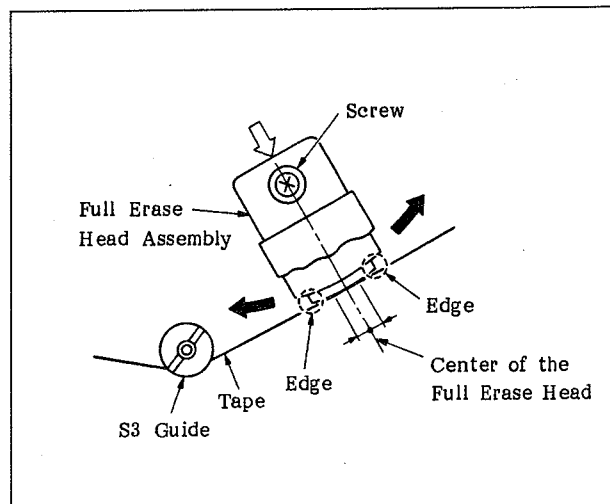

Fig. 6-56 Adjustment of the Position of the Full Erase Head
**Note:** To attach the shield case, lightly fix it with one screw (PSW3 x 12) by pushing the shield case in the direction of the white arrow shown in Figure 6-56. (Tighten the screw once, then loosen it by two or three turns.)
6. Adjust the full erase head assembly by moving it in the direction of the black arrows shown in Figure 6-56 so that the tape is in contact with the center of the head, and then tighten the screw firmly.